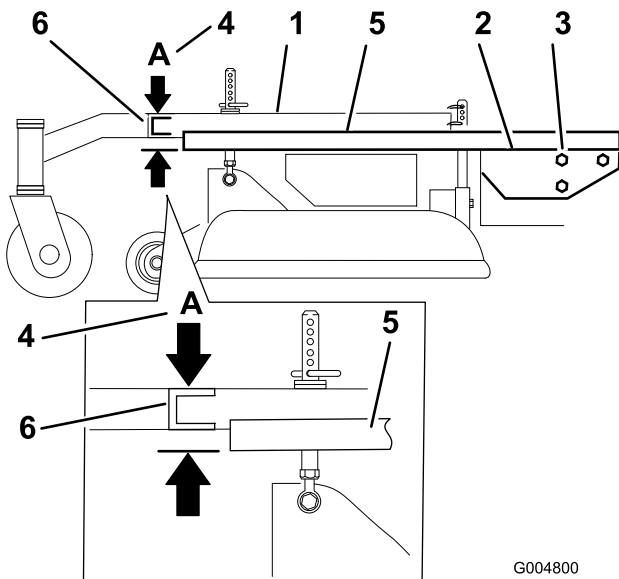

Figure 64
3. Place a long straight edge on top of the engine deck as shown in Figure 64.
4. At the carrier frame cross channel, measure the height at location **A** (Figure 64). This measurement must be 1-5/16 inch (33 mm), plus or minus a 1/4 inch (6 mm).
6. Loosen the carrier frame mounting bolts on both sides of the machine (Figure 64).
7. Align the carrier frame and engine deck to match 1-5/16 inch (33 mm), plus or minus a 1/4 inch (6 mm) at location **A** (Figure 64).